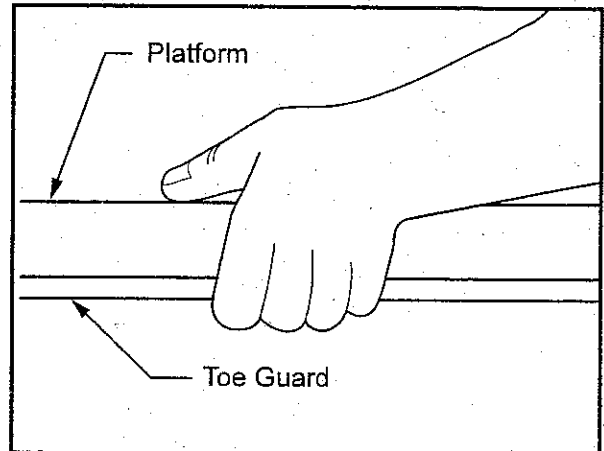

Figure 5 - Toe Guard Test
- b) As shown in Figure 5, grab the platform and toe guard at the mid point of one and lift the toe guard approximately 3/4".